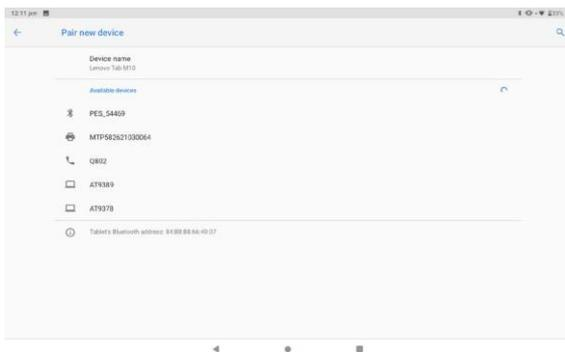

Figure 58
4. Wait for available devices to be found. Be sure the device you are trying to pair with is on and ready to pair (Figure 58).